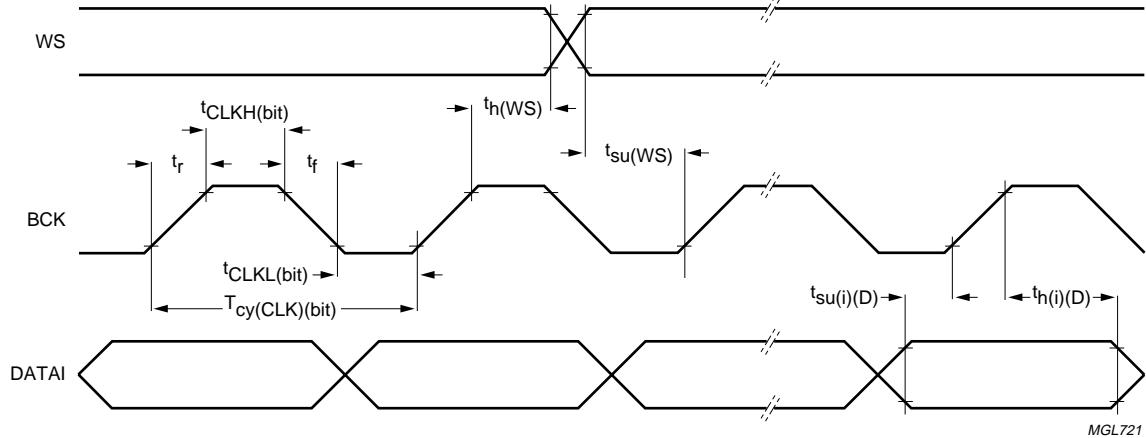

Fig.9 Serial interface timing.
**Serial input data timing (see Fig.9)**